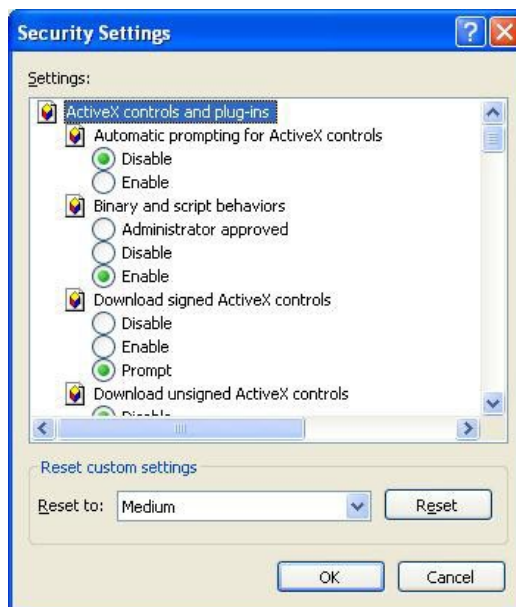

Fig. 3-2
- (3) Click “Customization level” to enter into the security setting. (Fig. 3-2)